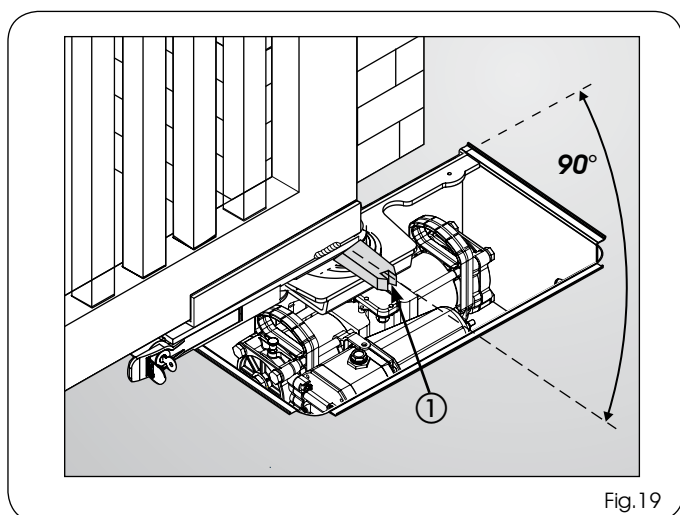

Fig.19
- 12) Take the released gate into open position, making sure that the released part freed from the gate **remains in the gate closed position as shown in Fig. 19 ref. ①**.